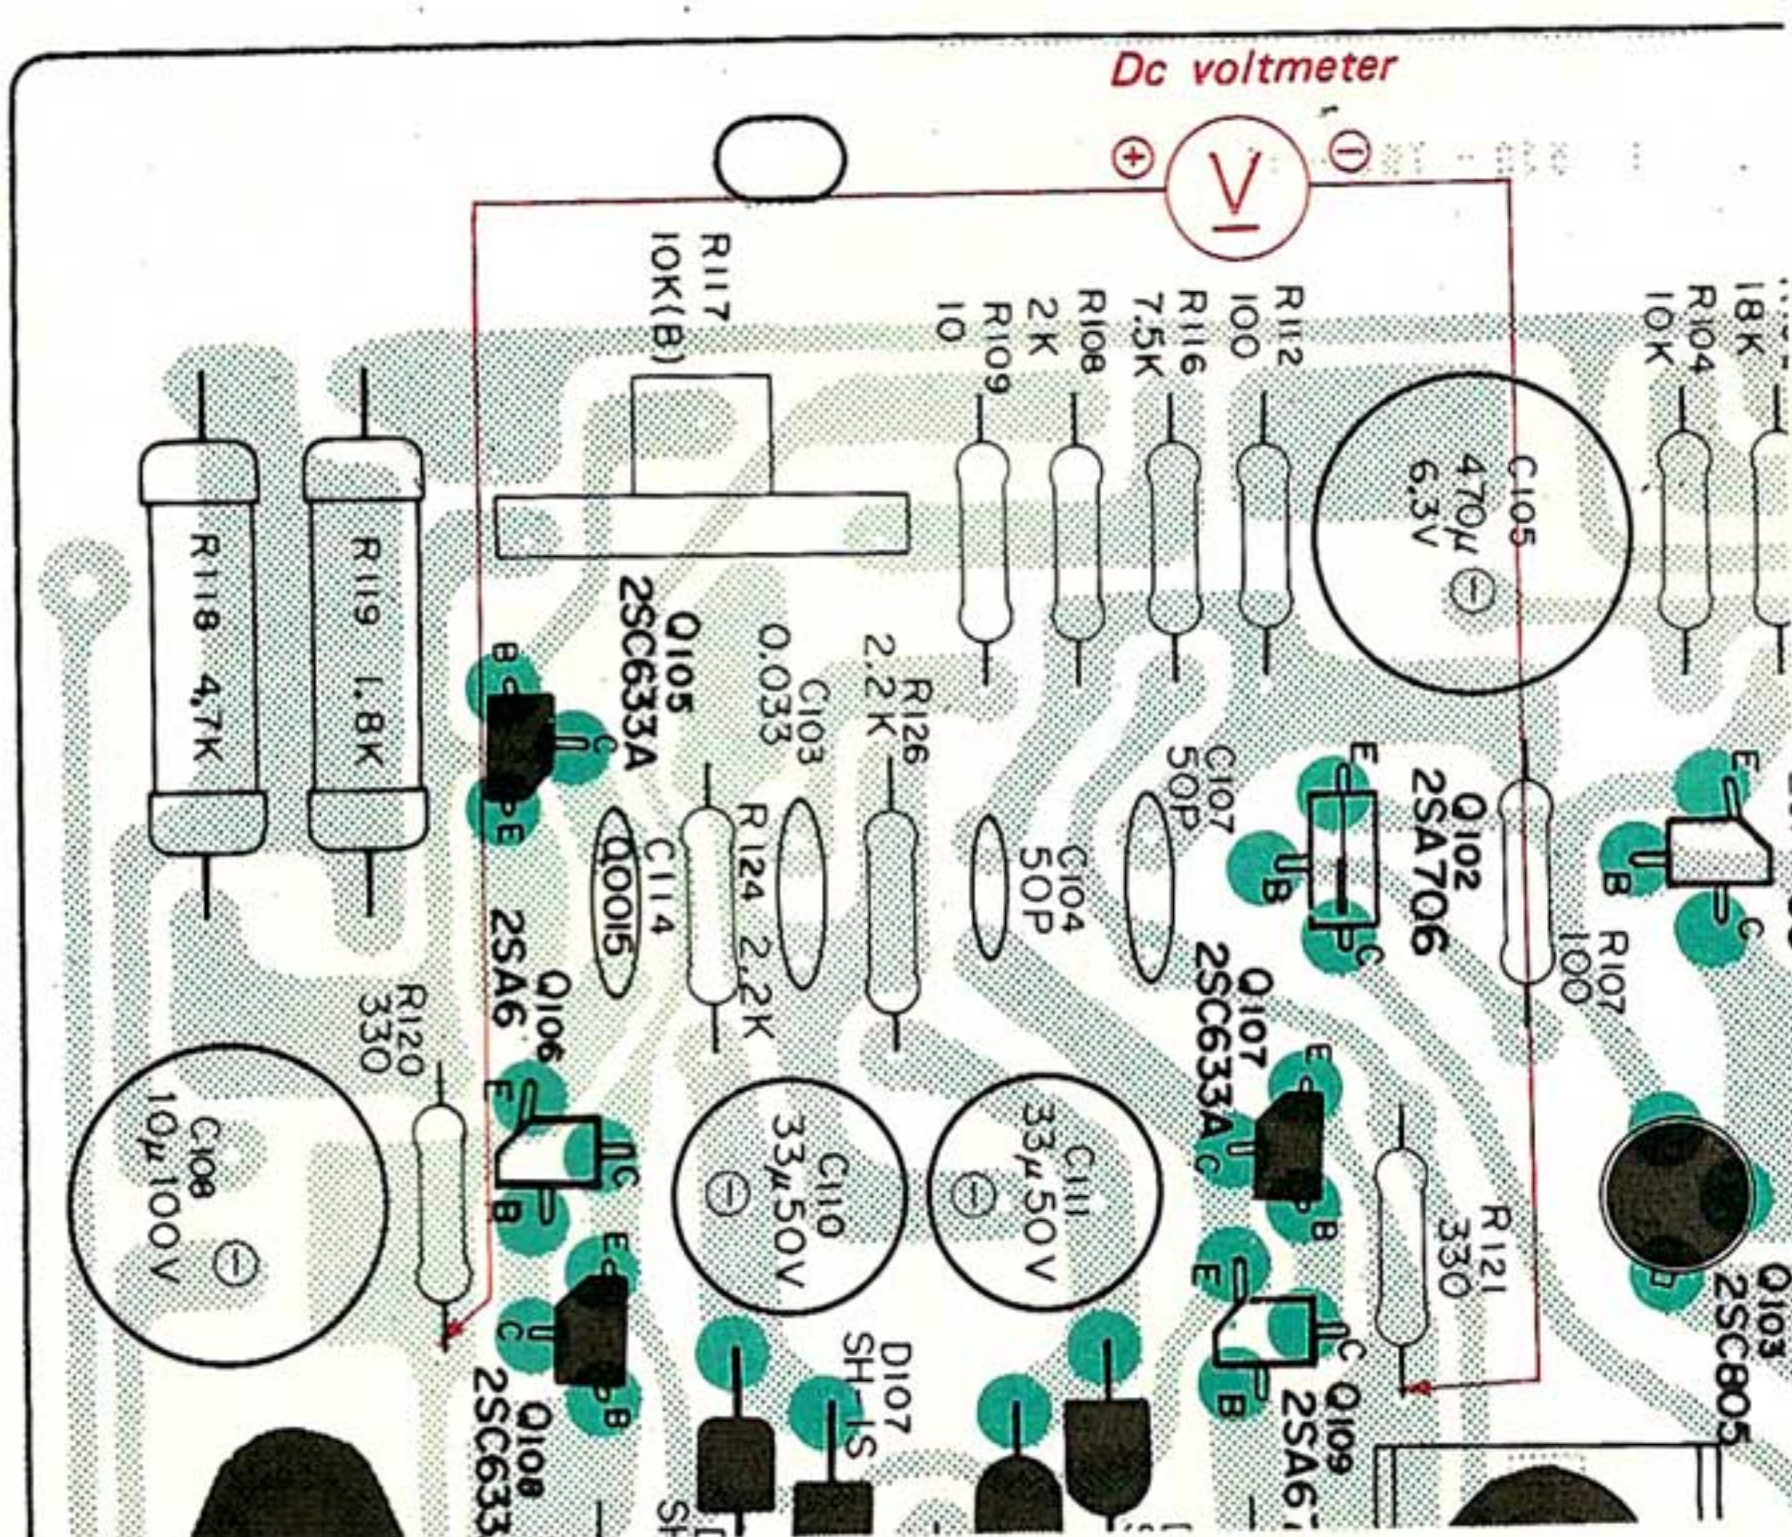

Fig. 3-3 Dc voltmeter connection point
3. Touch the test-leads of dc voltmeter across emitters of Q106 and Q107, positive lead to the emitter of Q106 and negative lead to the emitter of Q107 as shown in Fig. 3-3.